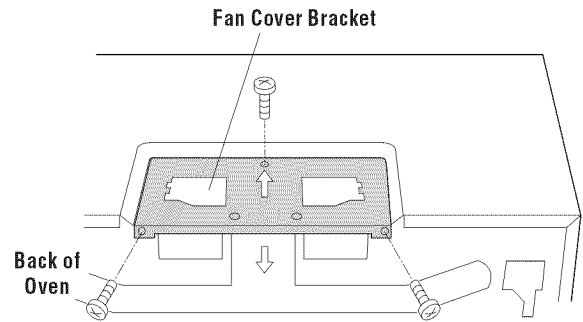

Figure 7
1. Remove and save 2 screws from back edge and 1 screw from the top center of Fan Cover Bracket. Remove Fan Cover Bracket by sliding it in the opposite direction of the arrow on the Fan Cover Bracket, as shown in Figure 7.
1. Remove and save 2 screws from back edge and 1 screw from the top center of the Fan Cover Bracket. Remove Fan Cover Bracket by sliding it in the opposite direction of the arrow on the Fan Cover Bracket as shown in Figure 7.